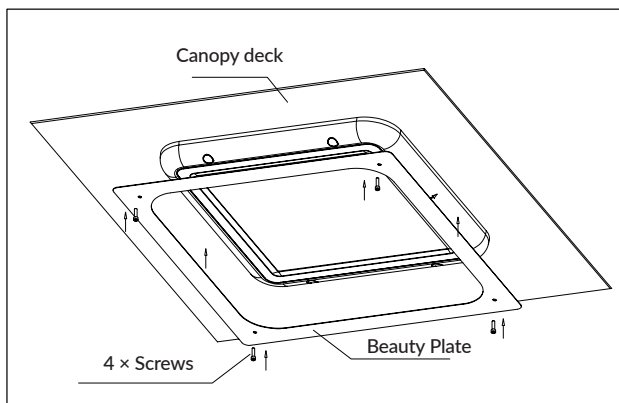

Figure 14
- Position the Beauty Plate over the luminaire on the exterior side. Fasten the Beauty Plate to the canopy deck using the four Screws and Nuts. Then, seal the screws and nuts with glue to waterproof the deck.(Figure 14,15).